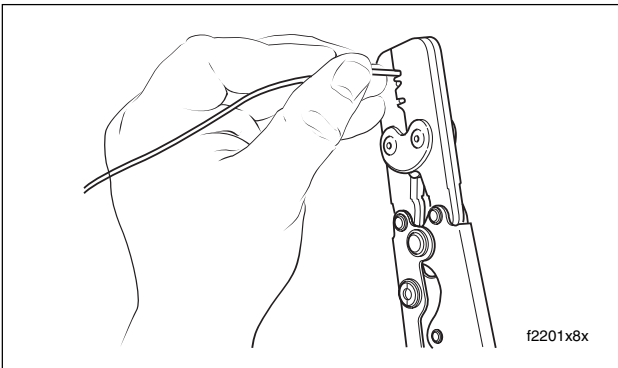

Figure B-33. Crimp Terminal Onto Wire
9. Squeeze handle of crimp tool until tightly closed. Tool automatically opens when the crimping sequence is complete. See Figure B-33.